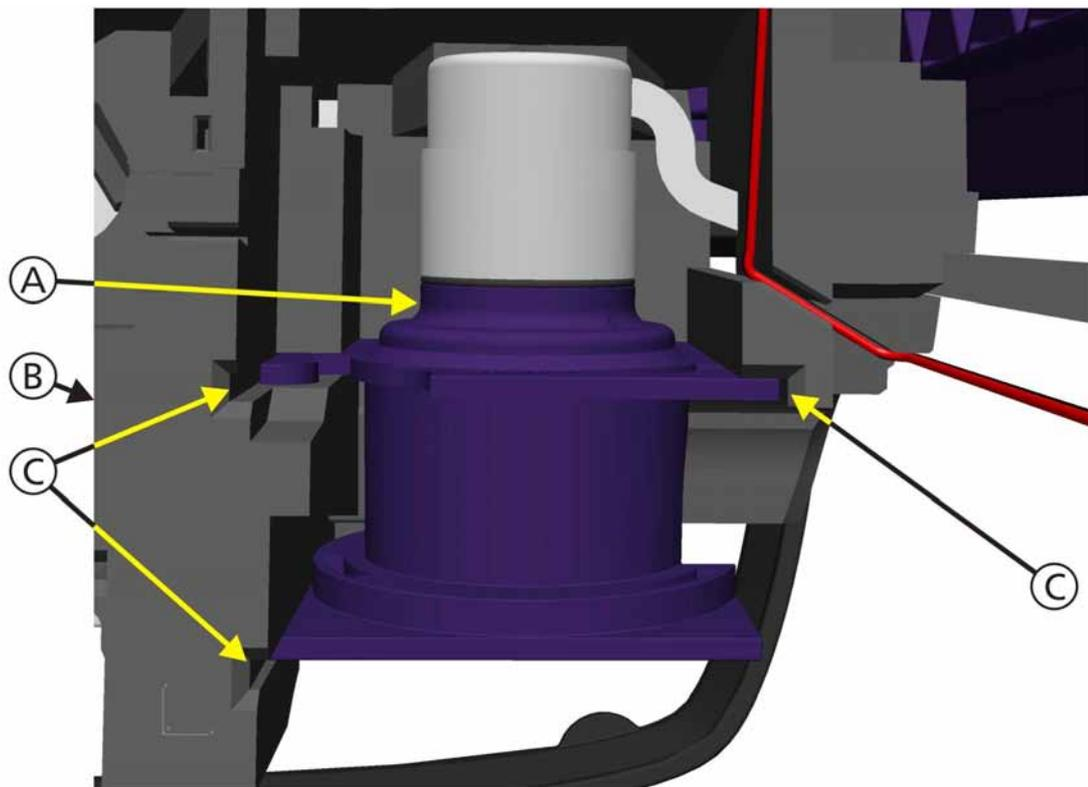

Figure 11-55. Expiratory Valve Assembly, Step 1
- Figure 11-55, *Expiratory Valve Assembly, Step 1*, on page 11-62